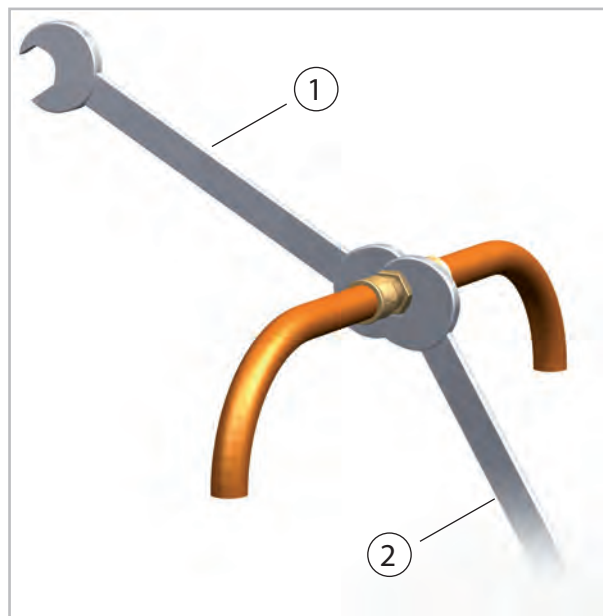

Fig. 33: Tightening the fitting
11. ➤ Then tighten the fittings with 2 appropriately-sized open-ended spanners. Use one spanner to counter the force when tightening the fitting (Fig. 33).